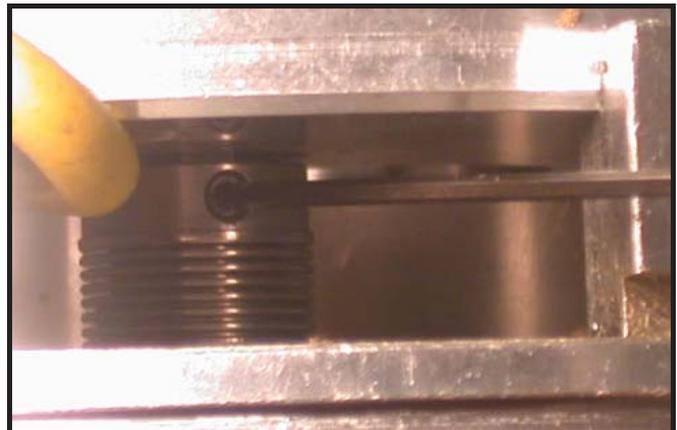

Figure 4.2.4
At the front of the lathe remove the Z axis ball screw cover (Figure 4.2.3) and insert a allen wrench to turn the ball screw to align set screws in the coupler on the feedback unit (Figure 4.2.4) so the (2) set screws can be loosened. At this time you can turn the Z axis ball screw and check how it feels.